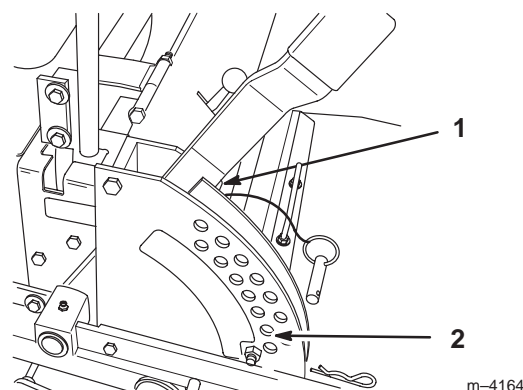

Figure 48
2. Check tire pressure of all four (4) tires. If needed, adjust to 13 psi (90 kPa)
4. Raise the deck to the transport position and take all force off of the two large deck lift springs by loosening nut in front of each spring (Fig. 48).
5. Place two 2" (51 mm) thick blocks under rear left and right lower edge of mower. Place one 2-1/4" (57 mm) block under front center lower edge of mower. Lower mower to the 2" (51 mm) height-of-cut position (Fig. 48).
1. Raise deck lift lever to the transport position (Fig. 48).